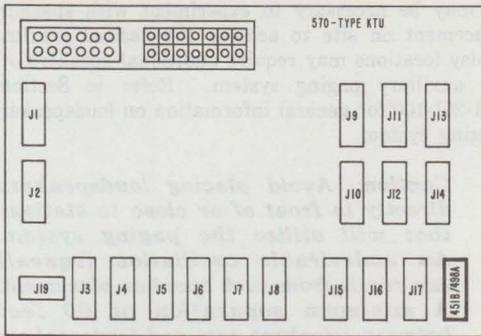

Fig. 30—Location of Music-On-Hold Circuit
(a) If the KSU is a 570A (MD), plug the 451-type KTU into J18. If the KSU is a 570B, plug the 116A1 CM into J1/J2 on the 498A KTU and then plug the 498A into J18 on the KSU. See Fig. 30 for KTU location.